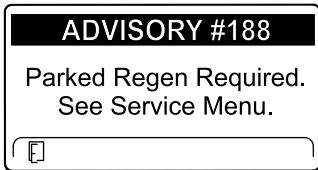

Figure 37
- Parked regeneration required ADVISORY #188 (Figure 37)